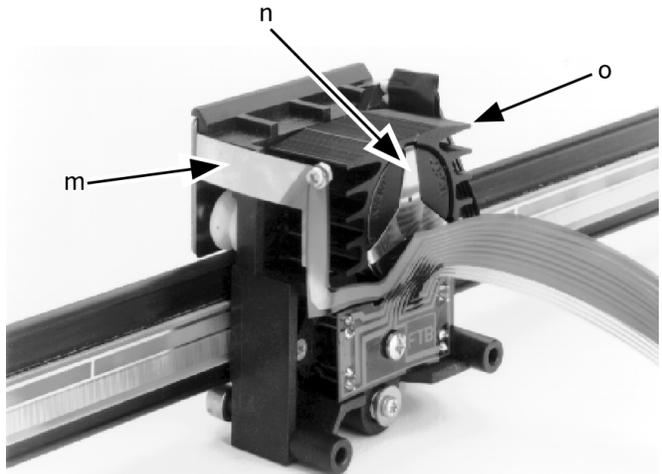

Figure 5.12.3f
- m Print head grounding shim (figure 5.12.3f)
- n Print head (figure 5.12.3f)
- o Print head heatsink (figure 5.12.3f)